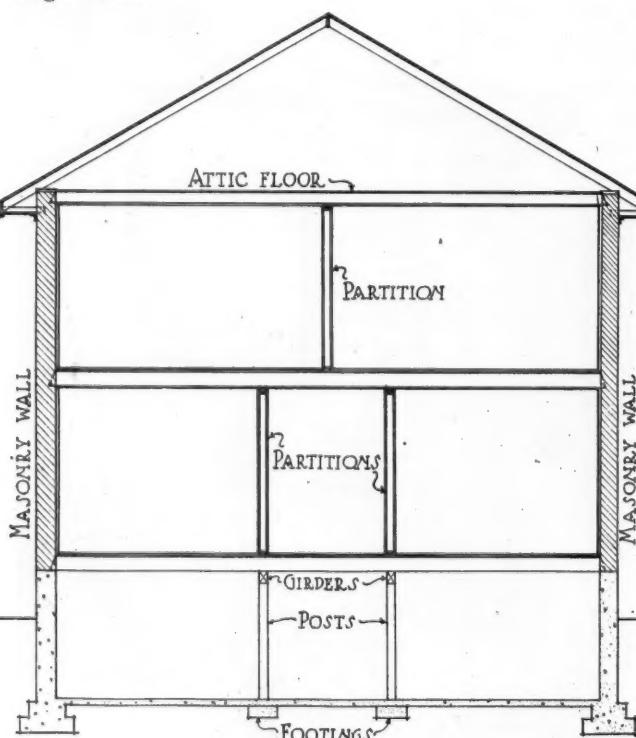

Fig. 57. Section through Building, Showing Floors and Location of Partitions.
"At our last Talk," said the Boss, "I told you fellows how to find the amount of load carried by the joists in a floor, and also how to determine the load carried by the main girders or beams when that type of construction is used. This time I am going to go ahead and tell you how to find the size of the joists and girders in a building such as is shown in Fig. 57. We will use yellow pine in this case, but joists and beams of any other kind of timber would be figured in just the same way, except in the use of a different value for the strength of the material itself.
"In the building shown in Fig. 57," said the Boss, "the rooms on the first floor are 12 feet wide and the hall is 8 feet wide. This will make it possible to use either three separate sets of floor joists on this floor—two of the sets 12 feet long in the clear and the other set 8 feet in the clear, with ends overlapping on the girders—or two sets of joists with one long and one short set overlapping over the girders. In this latter arrangement it would be advisable to stagger the joists so that the joints will alternate on the two carrying girders.
"If a partition is supported at or very near to the center of a series of short beams as shown in Fig. 57, then formula (A) is changed as follows: